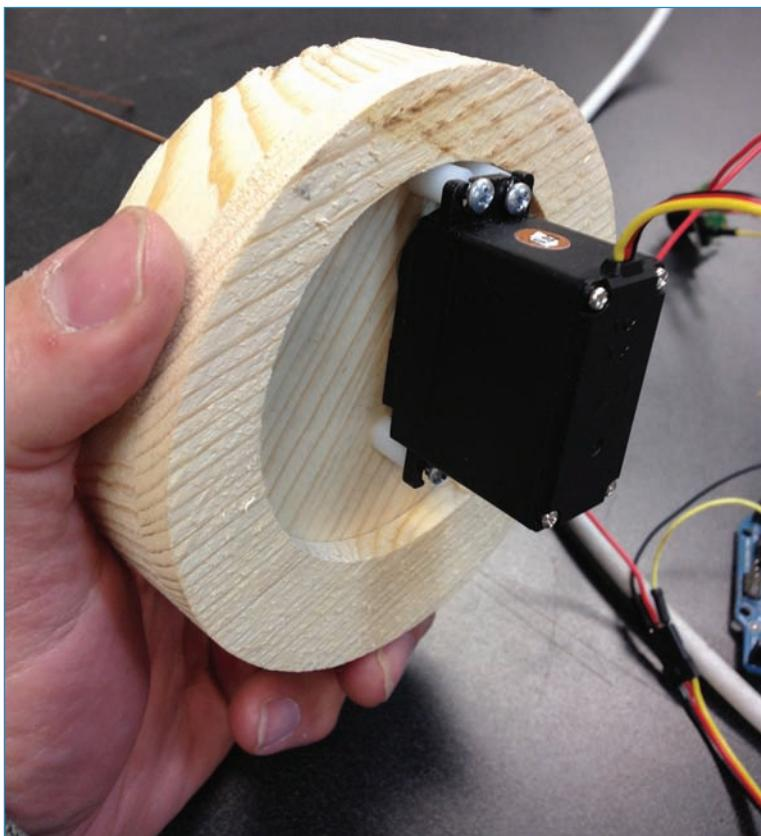

FIGURE 9.18 Attaching the motor with screws and stand-offs.
9. Connect the heavy wire to the hub. In my case, I used hot glue but you might decide you want a more robust attachment. You then thread the wire through the 3/16" hole you drilled in the top and when it's flush, attach it with the #4 × 3/4" wood screws and 3/8" plastic standoffs, as shown in Figure 9.18.